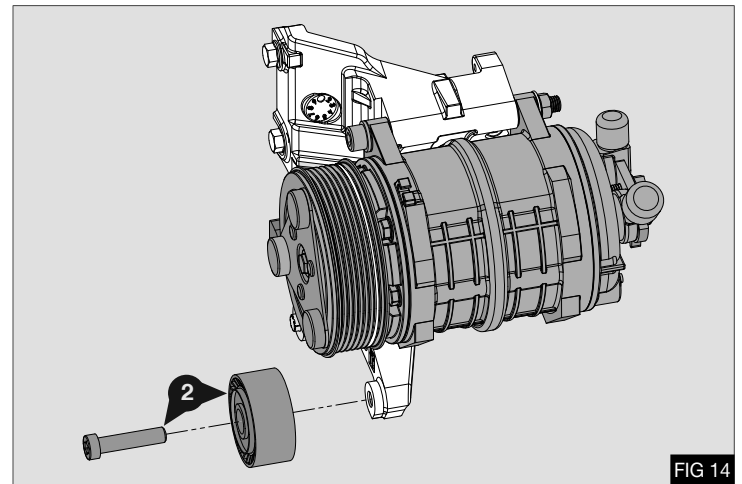

FIG 14
1. Install back idler pulley (2) with its bolt to point shown - Fig 14
2. Torque bolt (2) to 45Nm / 33Lbft